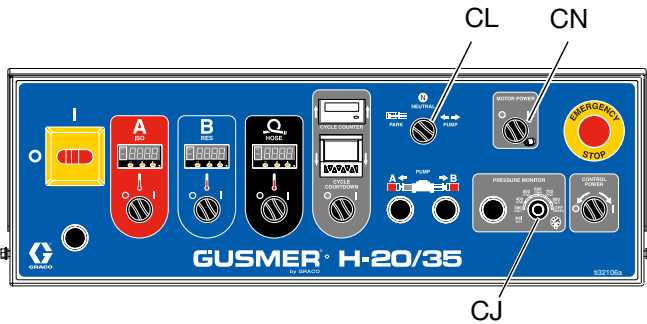

FIG. 39
9. Turn pressure monitor knob (CJ) to OFF. See FIG. 39.
10. Start hydraulic motor by turning on motor power switch (CN). Then turn pump control switch (CL) to PUMP.